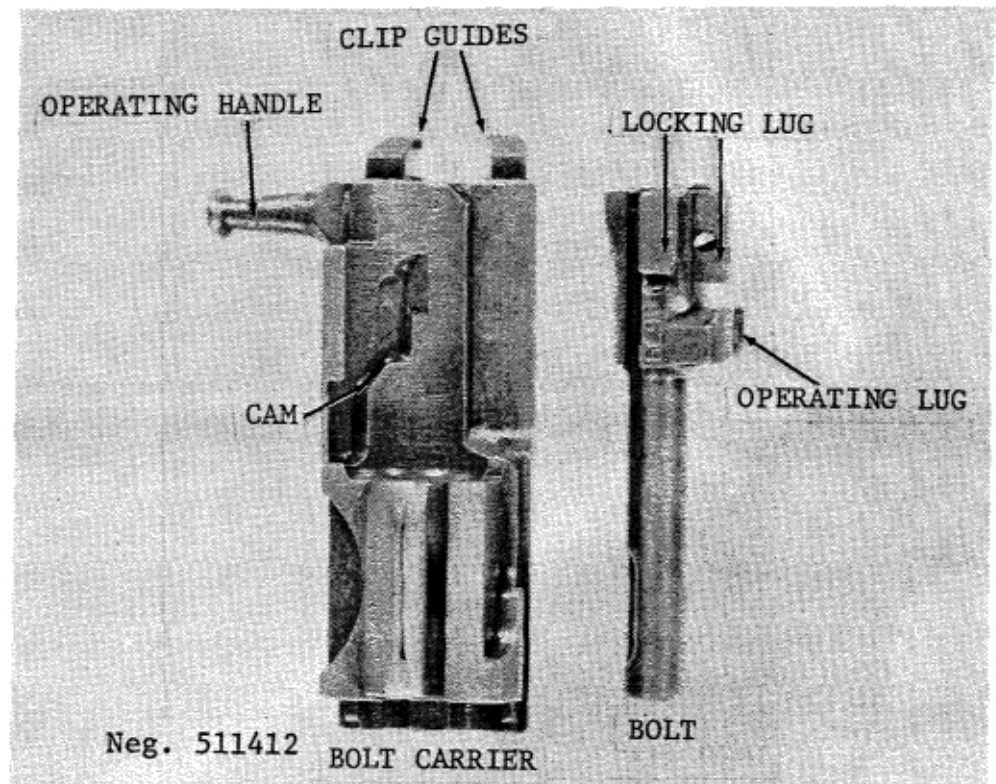

Figure 112. Type 68 bolt.
e. Push the bolt to the rear in the carrier; then twist the bolt (fig 112) until it can be pulled forward and out.
k. Place the spindle of the bolt into its hole in the bolt carrier and twist the bolt until the operating lug (fig 112) slips into its groove in the bolt carrier. Pull the bolt forward in the carrier. Mate the slot on the right side of the carrier with the upper lip on the right side of the receiver, lay the carrier onto the left upper lip, then move the carrier until the lug on its left side enters the cut in the left rear receiver lip. Push the bolt carrier fully forward.
ing on the bolt (fig 112); further bolt carrier travel causes the bolt to rotate and unlock from the barrel extension. The extractor, engaged with the fired cartridge case, pulls it from the chamber and holds the case against the bolt face until the case strikes the fixed ejector. The ejector forces the case to pivot about the extractor and be expelled. The rearward travel stops when the bolt carrier strikes the rear wall of the receiver.